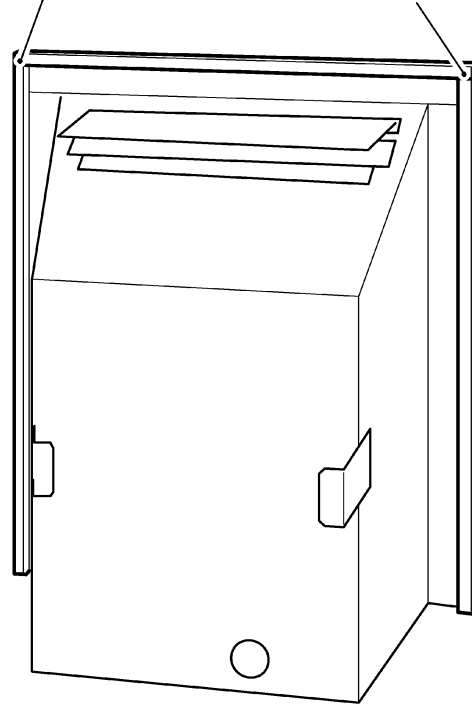

Figure 13. Fitting the foam seal
7. There is a length of self adhesive foam seal supplied with the fire. This will need to be fitted to the outer rear edges of the side and top flanges of the hotbox. Cut a 485mm length of foam seal. Be careful not to stretch the seal when measuring. Remove the protective backing from the foam seal and fit this to the rear of the top flange (See figure 13). Cut two 580mm lengths. Fit these to the rear outer edges of the side flanges. Ensure that there is no gap between the foam seals where they meet at the top flange (See figure 13).